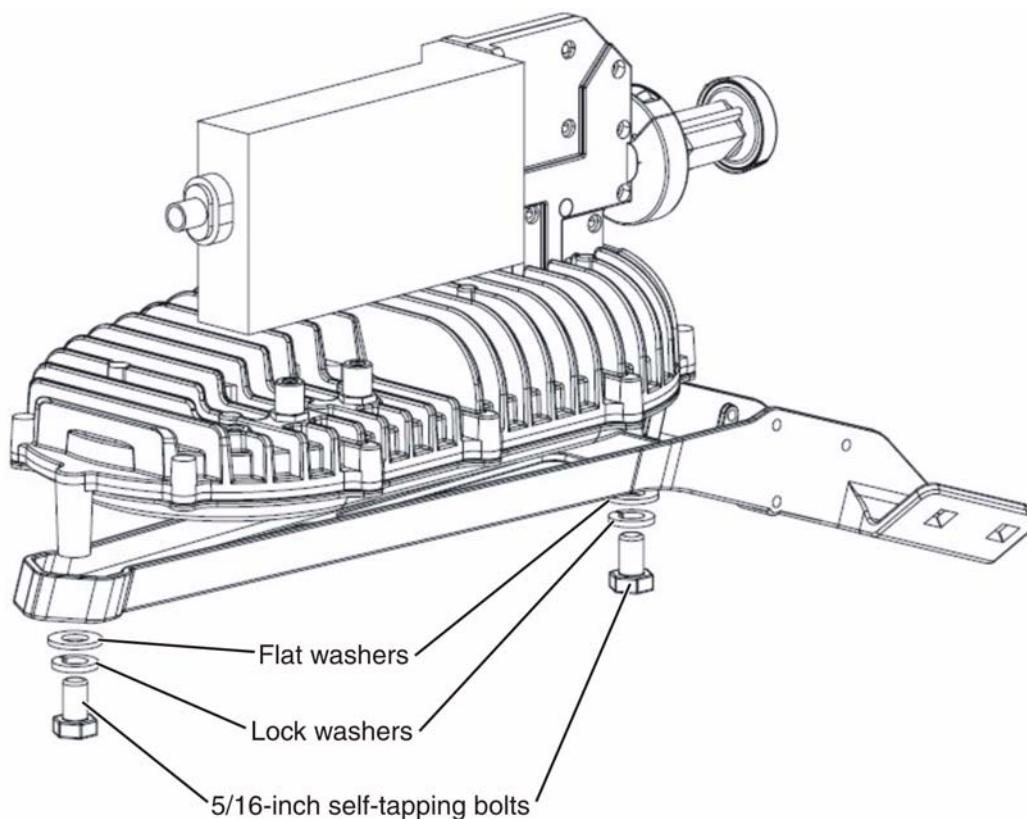

Figure 18: Attaching the radio assembly to the tailpiece
2. Insert two 5/16-inch  $\times$  1/2-inch self-tapping bolts, with flat washers and lock washers, up through the tailpiece from underneath, and into the threaded sockets on the bottom of the radio transmitter, as shown in Figure 18.